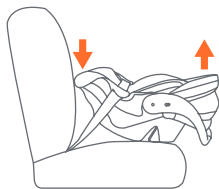
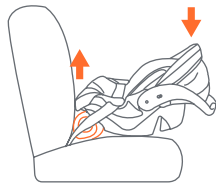

Fig. 47-2
Fig. 47-3
- If the Seat Angle Indicator shows **ANY red**, the Safety Seat is either **too upright** or **too reclined**. If the Safety Seat is too reclined adjust the Safety Seat as shown in Fig. 47-2 until the level indicator shows **NO red**. If the Safety Seat is too upright, place a tightly rolled towel, or car seat noodle, under the foot end of the Safety Seat until the level indicator shows **NO red** (Fig. 47-3). Re-tighten the vehicle seat belt as instructed in section **Securing the Safety Seat or Base in the Vehicle**.